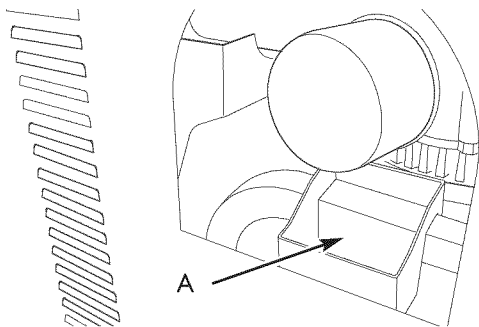

Figure 16 — Changing Oil Filter with Oil Drain Tray
- Place oil drain tray over tubing and slide it under oil filter (Figure 16).